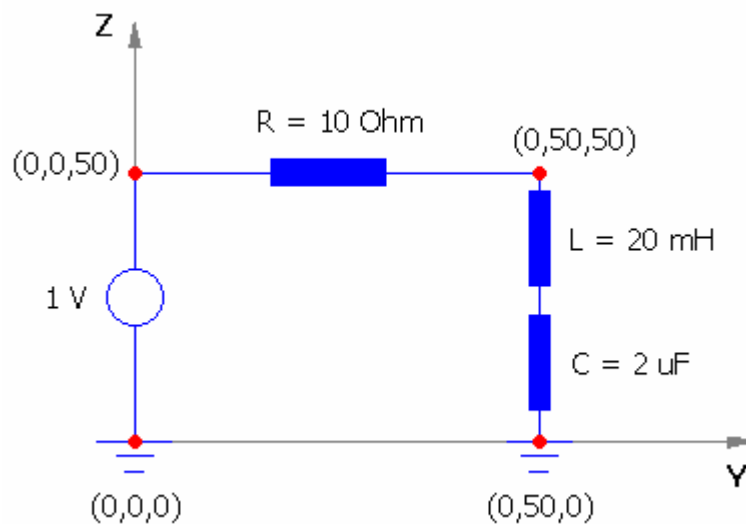
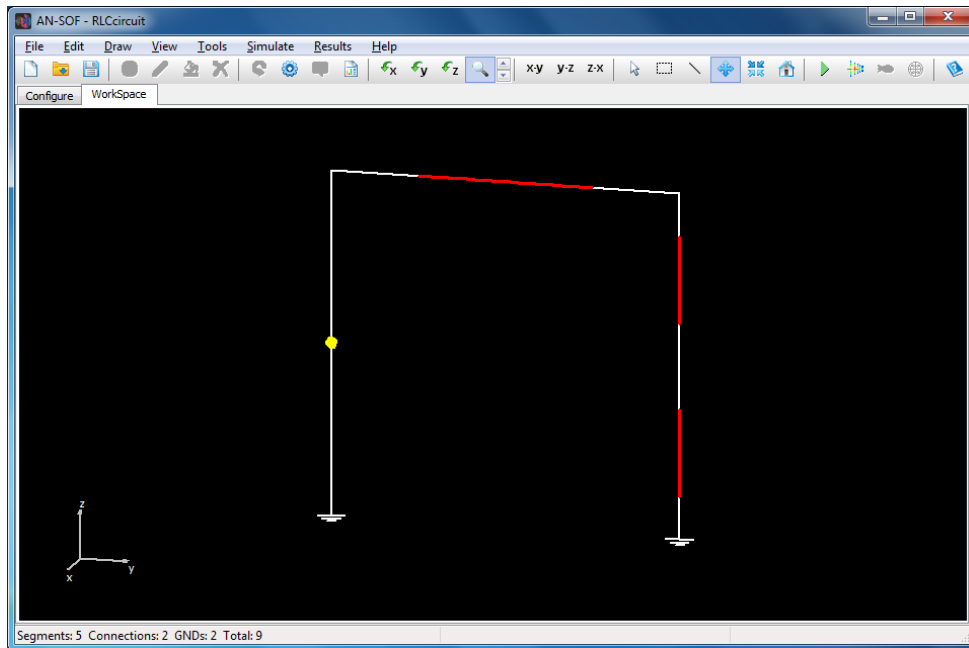

Fig. 14.14: Geometry definition for the RLC circuit.
Fig. 14.17: RLC circuit in the AN-SOF[®] workspace.
A sketch of the geometry definition for the RLC circuit is shown in Fig 14.14. Resonance is obtained at the frequency:
Step 2: Choose Draw/Wire/Line in the main menu. The Draw dialog box for the Line will be shown. Follow the procedure described in Section 5.1 for drawing linear wires to replicate the geometry in Fig. 14.14. The left vertical wire has 1 segment, the horizontal wire has 1 segment and the right vertical wire has 3 segments. The electrical connections at the points (0,0,50) [mm] and (0,50,50) [mm] are done automatically as well as the ground connections. Follow the procedure described in Section 8.5 for adding the load impedances shown in Fig. 14.14. The RLC circuit in the workspace is depicted in Fig. 14.17.